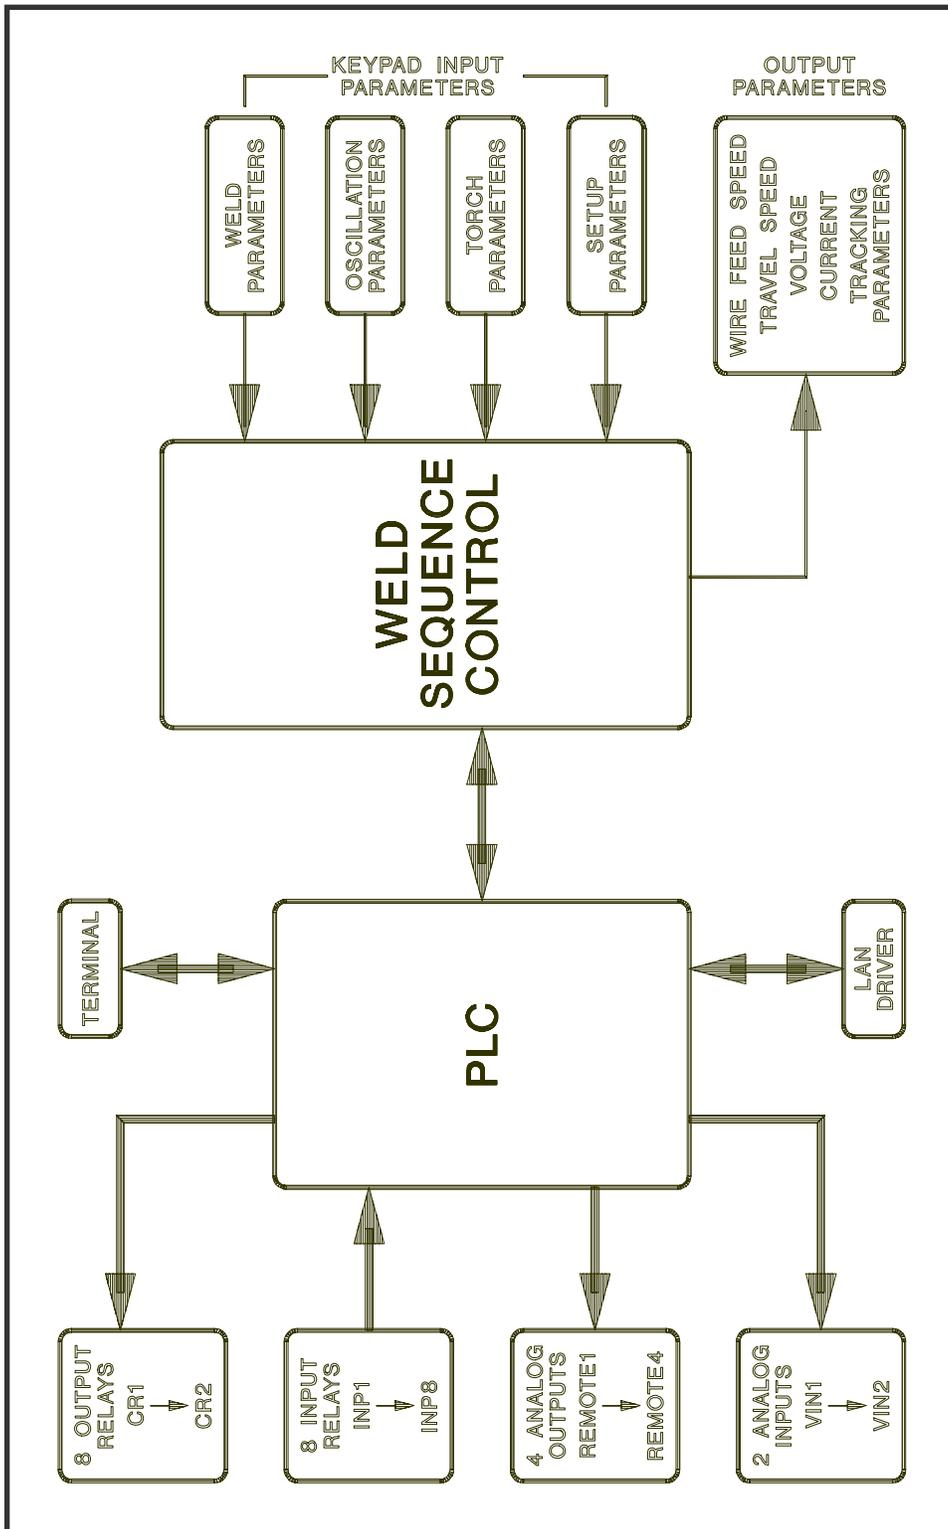

Figure 1
The WSC-1000 consists of two (2) major control systems (Figure 1). The first control system is a Programmable Logic Controller or PLC and the second system is the Weld Sequence Control or WSC. The PLC is the main controlling element and provides the interface between the WSC and the external I/O functions. The PLC is configured by using the Terminal serial port and the PLC serial command language. The user can define up to 150 sequences that will be executed by the specified switch inputs. The PLC is also used to activate a weld sequence and control external devices such as relays or solenoids and the PLC can provide time delay, event counting, relay/solenoid sequencing, analog output level control, analog input measurements and switch input compare functions. The PLC provides the user with 10 Timers, 10 Cycle counters, 10 nested subroutines, 11 compare and branch test functions and external axis control functions. The PLC can only be programmed by using the WSC-1000 terminal RS-232 serial port. Section 5.0 describes the PLC protocol and command structure. The Terminal port can also be used to upload or download welding parameters and to configure the WSC-1000 control functions. Section 4.0 describes the serial port protocol, the various parameters that can be programmed and their specific function. The PLC also controls an Local Area Network, or LAN, port. This LAN allows the PLC and WSC to control up to four (4) external axis drives and four (4) external DC servo drives. The external axis and drives can be used to control torch position or other motion control devices.